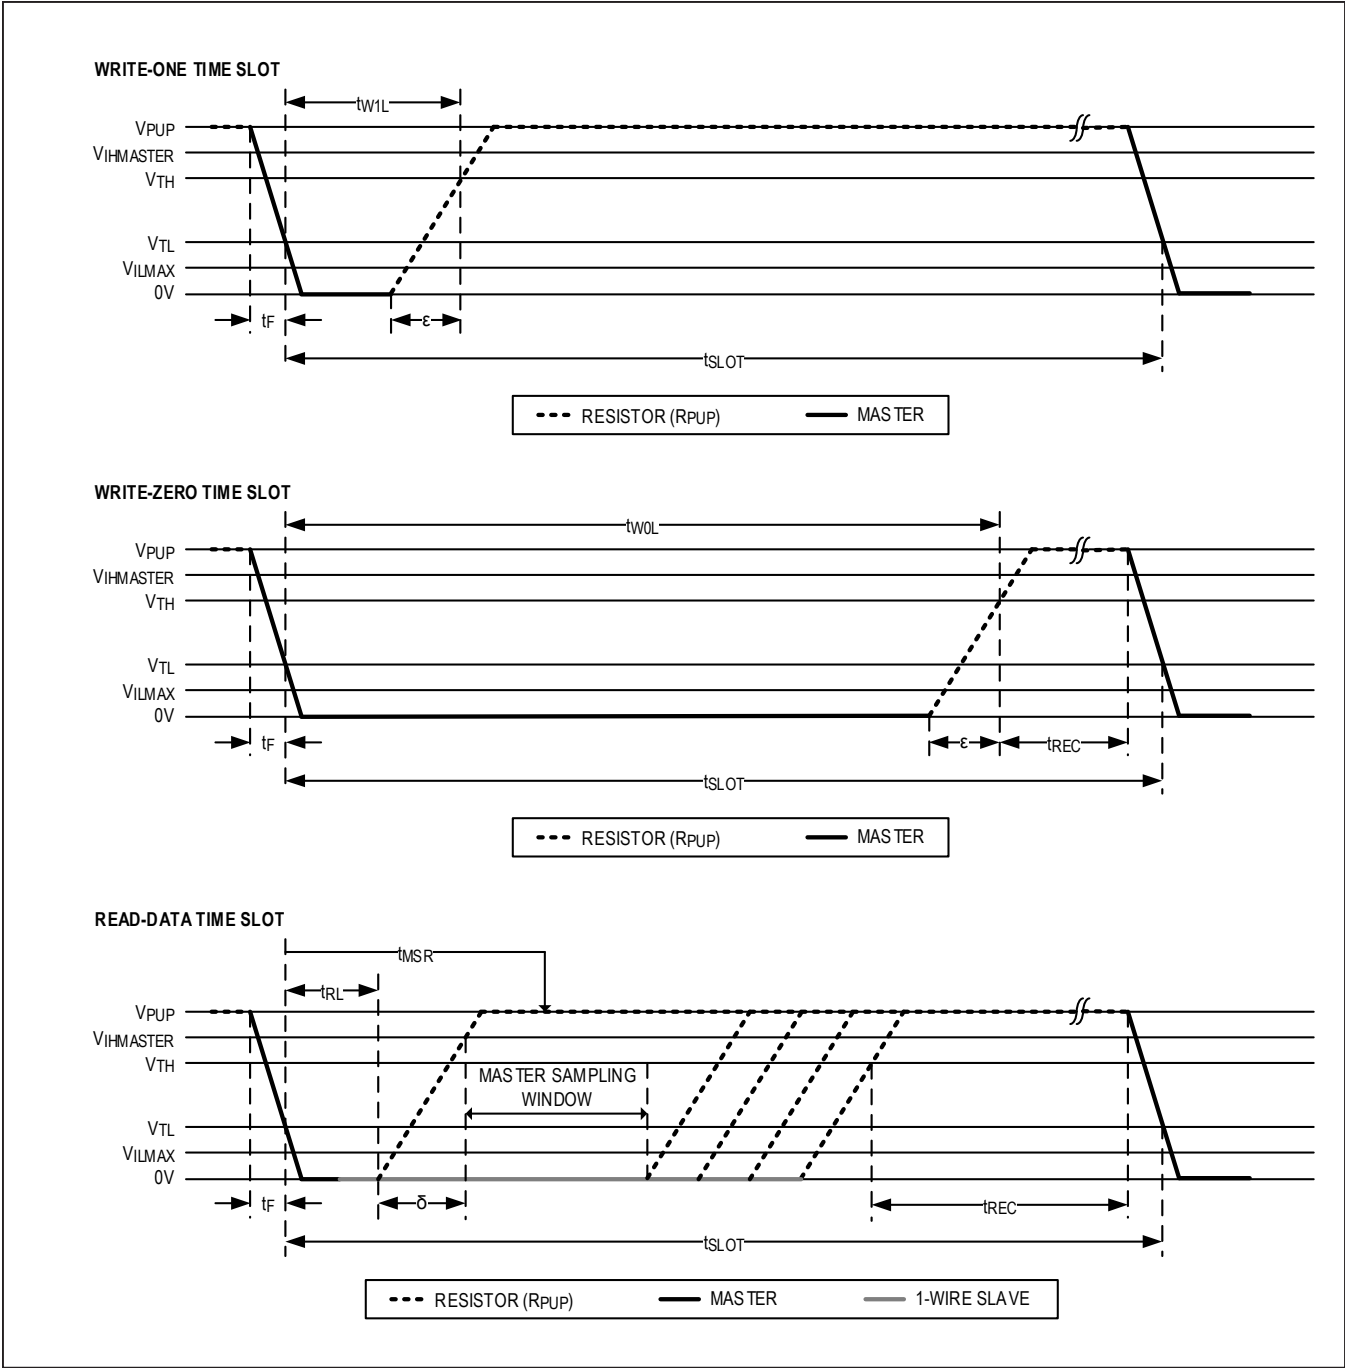

Figure 4. Read/Write Timing Diagrams
- Note 13:** System requirement.  $\epsilon$  in Figure 4 represents the time required for the pullup circuitry to pull the voltage on IO up from  $V_{IL}$  to  $V_{TH}$ . The actual maximum duration for the master to pull the line low is  $t_{W1LMAX} + t_F - \epsilon$  and  $t_{W0LMAX} + t_F - \epsilon$ , respectively.
- Note 14:** System requirement.  $\delta$  in Figure 4 represents the time required for the pullup circuitry to pull the voltage on IO up from  $V_{IL}$  to the input-high threshold of the bus master. The actual maximum duration for the master to pull the line low is  $t_{RLMAX} + t_F$ .
Data communication with the DS28E16 takes place in time slots that carry a single bit each. Write time slots transport data from bus master to slave. Read time slots transfer data from slave to master. Figure 4 illustrates the definitions of the write and read time slots.